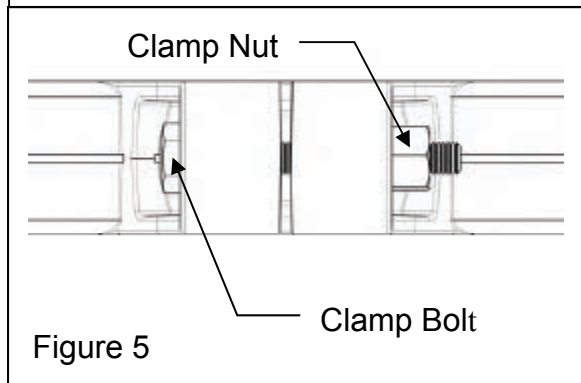

Figure 5
5. Using 3/4" wrenches, loosen and remove the clamp nut and the clamp bolt. (Fig 5)